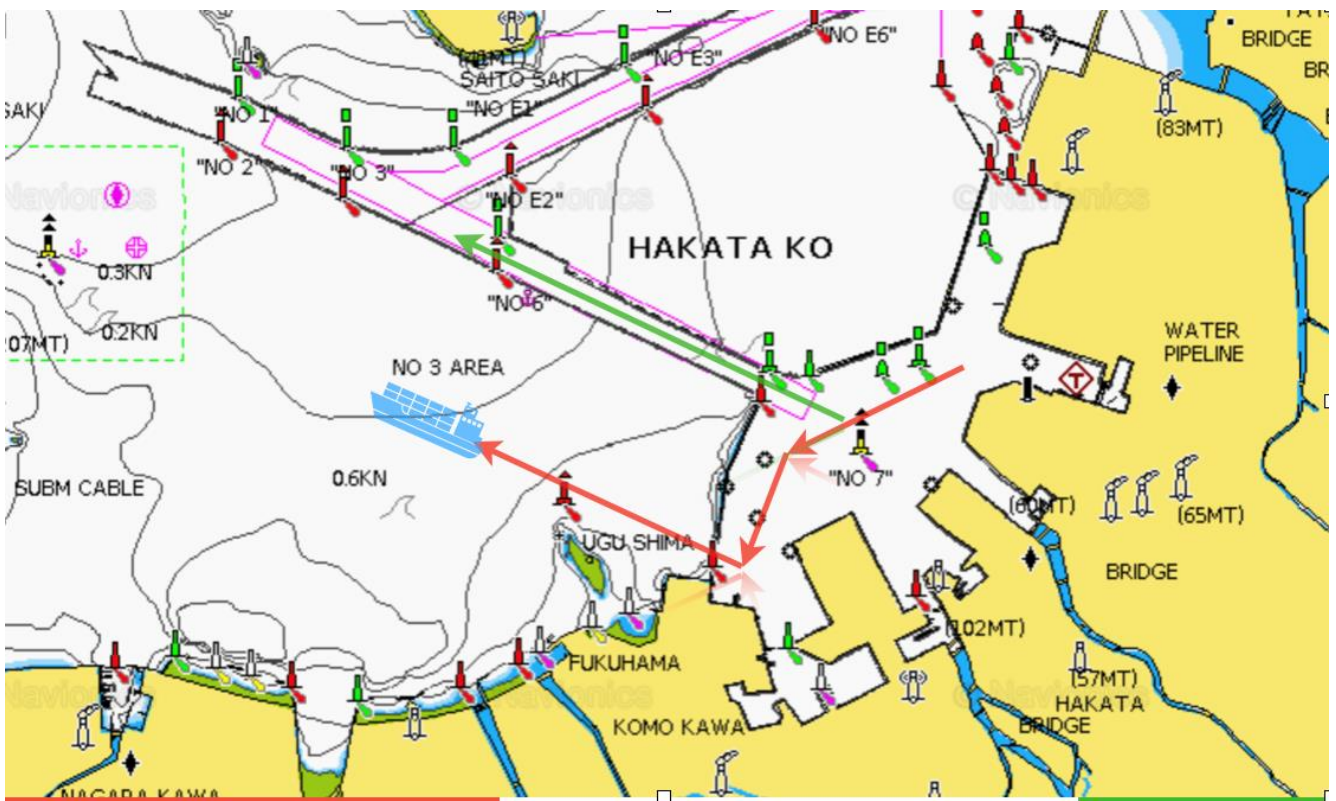

Figure 6-02: Lapse of mind in experienced Master
- Figure 6-02: Lapse of mind in experienced Master